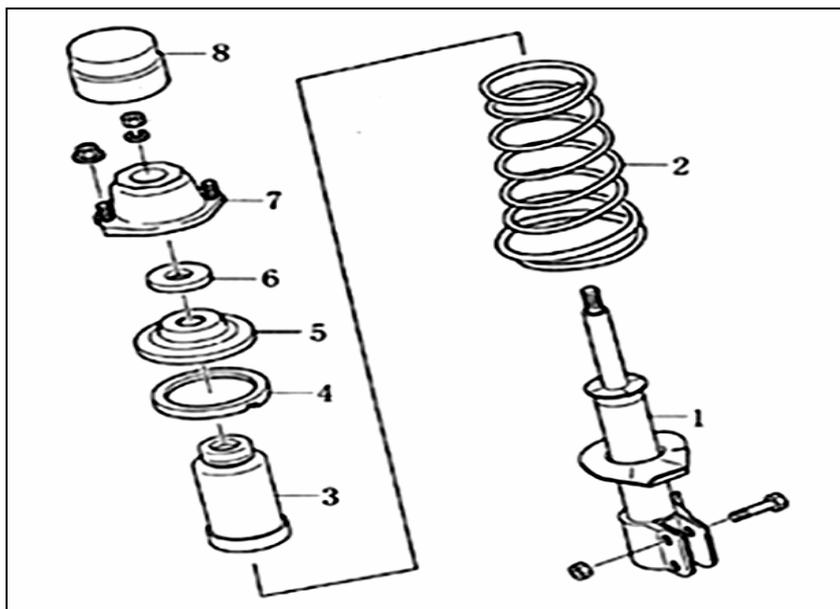
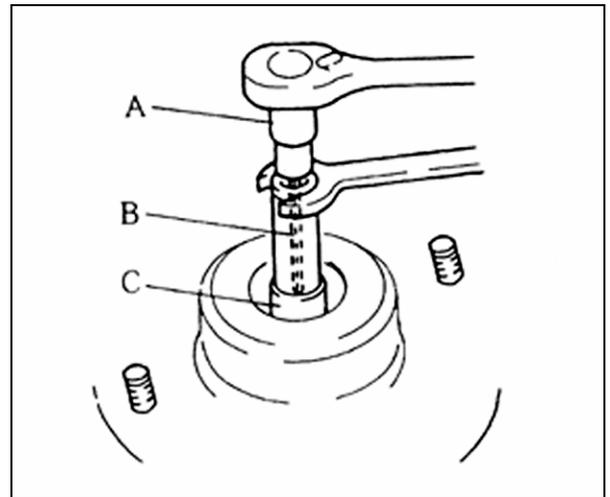

FIG.14-9
FIG .14-13
2 STRUT ASSEMBLY (FIG.14-9)
- (2) Loosen the self-locking nut by using the special tool (A), (B), (C)(FIG.14-13), disassemble the part according to FIG.14-9.
- (3) Assemble the parts referring to FIG.14-9.
- (4) Using the special tools, tighten nut to the specified torque. (FIG.14-13)Tighten torque:50~70N.m.
- (5) Unscrew and remove coil spring special tools (A), when unscrewing the special tools, recheck if the end of coil spring fits well with the spring seat.